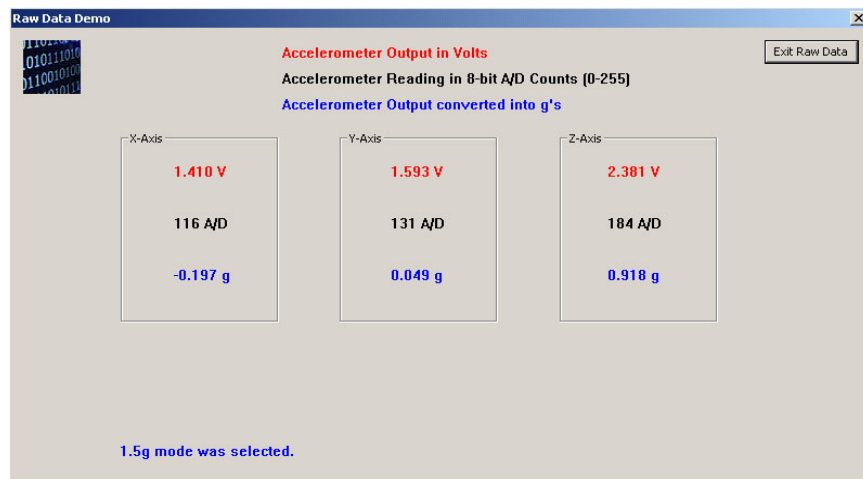

Figure 5. Raw Data Demonstration
1. Raw Data — As shown in Figure 5, the Raw Data application shows the raw data sent from the accelerometers and processed by the MCU. The following data is provided: